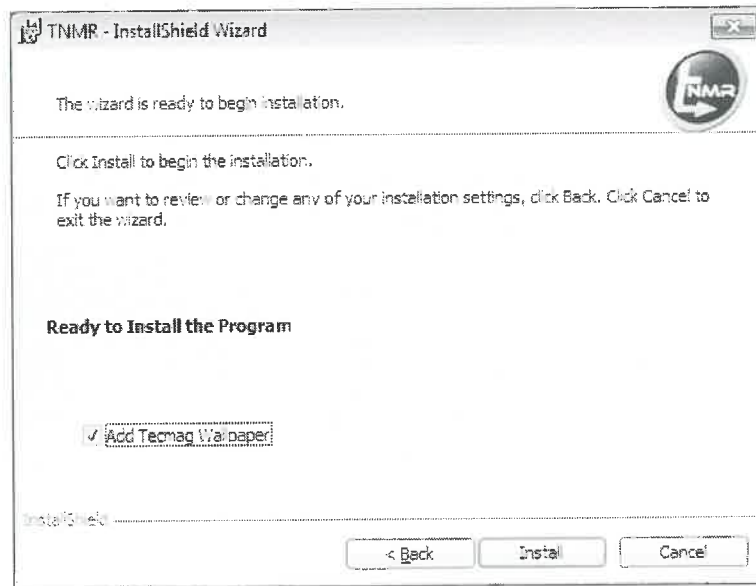

Figure 11
11. TNMR is now ready to be installed. At the *Ready to Install the Program* screen, select Add Tecmag Wallpaper to change the desktop background to the embossed Tecmag “T” logo. Click Install to begin the installation. (See Figure 11)